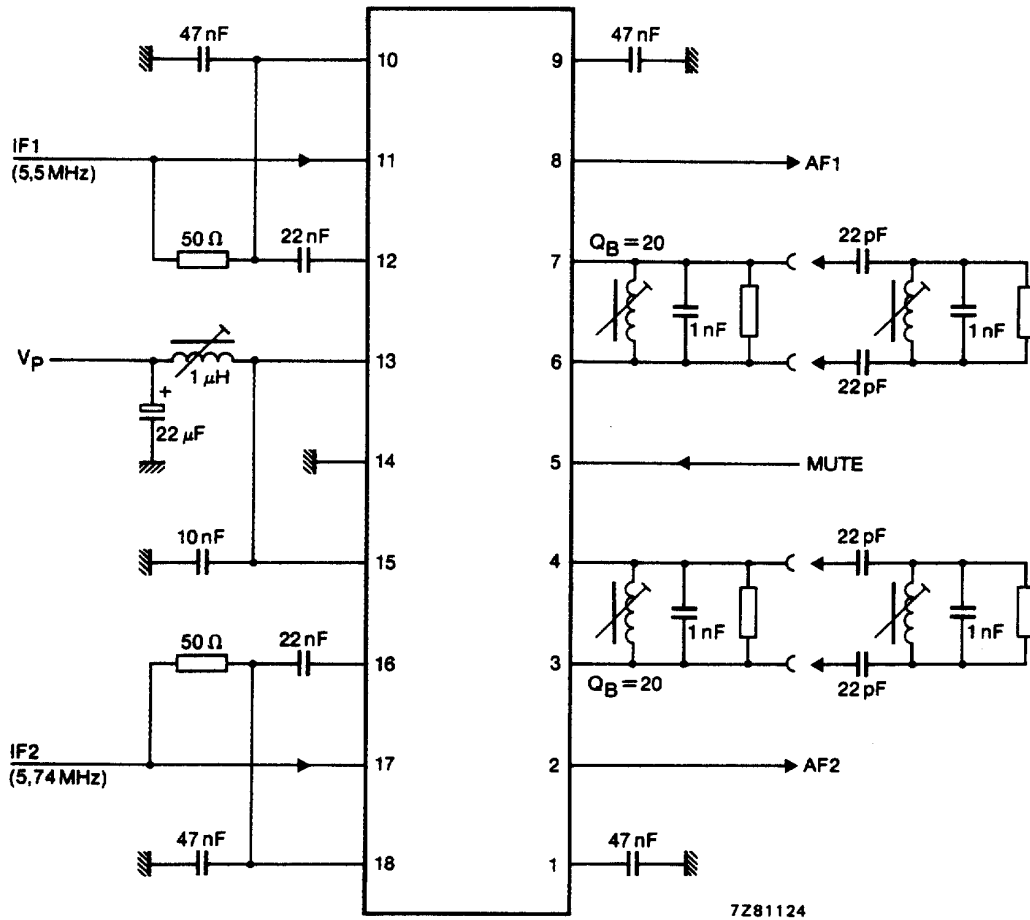

Fig.3 Test and application circuit.
see test circuit Fig.3, voltages with respect to ground (pin 14), unless otherwise specified.
- THD < 0,1% requires a double tuned demodulator circuit ( $Q_L = 20$ ). With a single tuned circuit a THD of < 0,5% is possible (see Fig.1 and Fig.3).